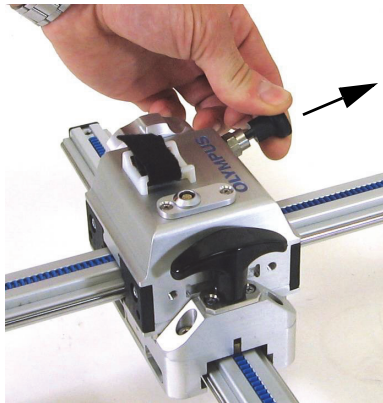

Figure 3-4 Pull out the knob to unlock the X-axis
8. Unlock the X-axis (see Figure 3-4 on page 61).